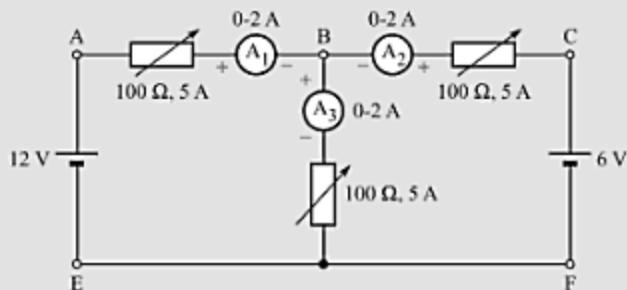

Fig. 4.57
**Circuit Diagram** The circuit diagram is shown in Fig. 4.57.
1. Make connections as given in Fig. 4.57, keeping the rheostats at their maximum value.